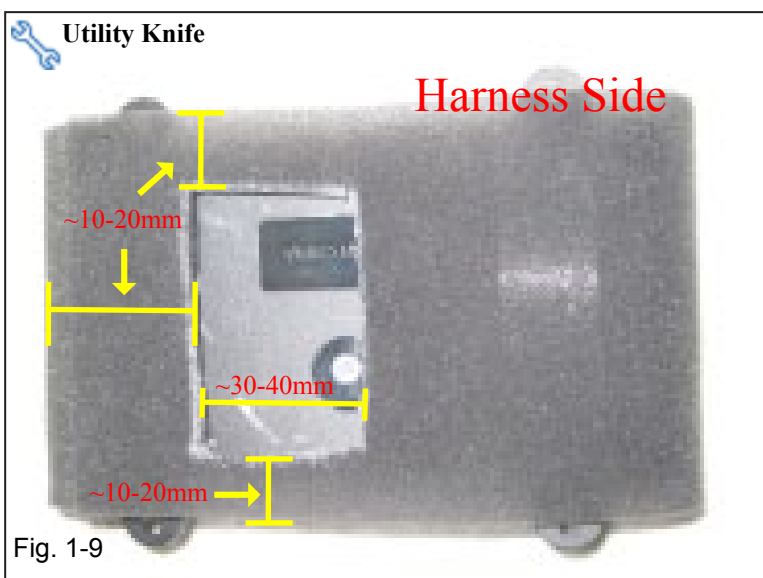

Fig. 1-9
**NOTE:** Push on each of the six (6) clips from the bottom side during removal.
1. Using appropriate cutting tool, carefully cut a hole in the foam approximately 10-20mm from the top and sides of the edge. (Fig. 1-9).
BLU Logic wire ties in Figure 1-9 and the remainder of these instructions will be shown in yellow.